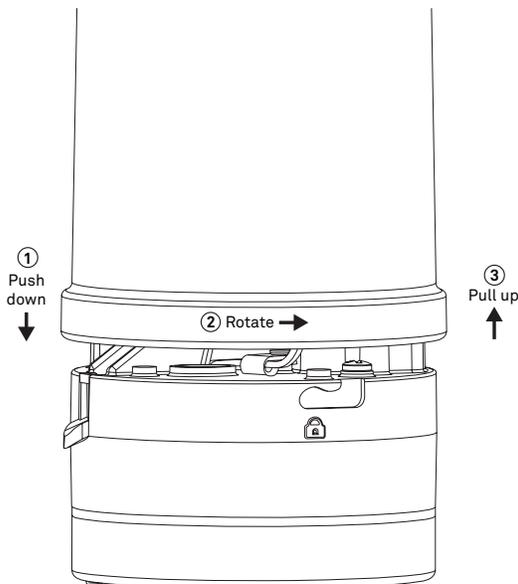

Figure 2 Removing ATMOS 41 rain funnel
4. Twist counter-clockwise to unlock from the ATMOS 41 base (Figure 2).